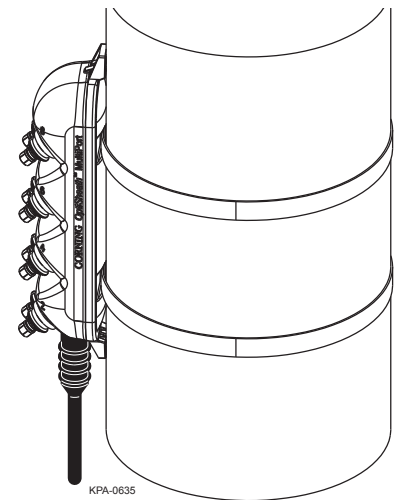

Figure 10
Step 1: Run cable straps through mounting slots in the back of the terminal (Figure 10).